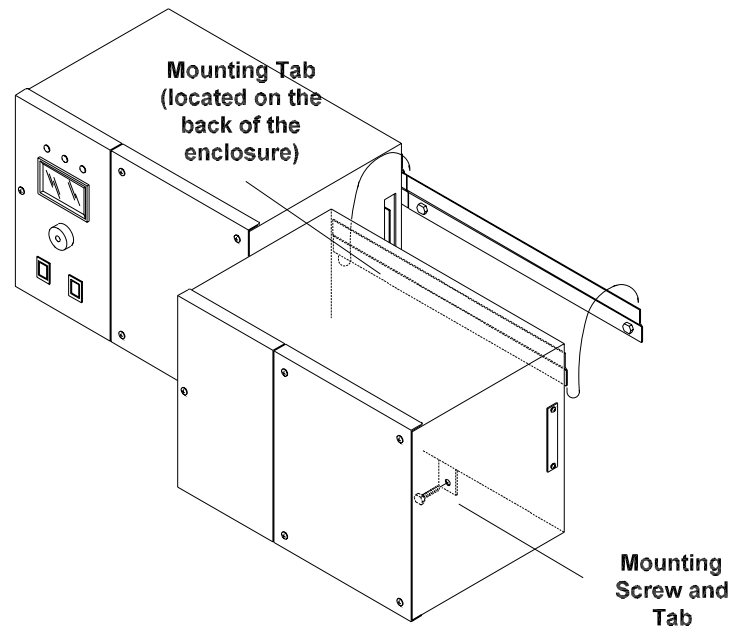

Figure 3.7 Hanging the 4-slot power chassis
Step 5: Hang the 4-slot power chassis on the second rail as shown in *figure 3.7*.